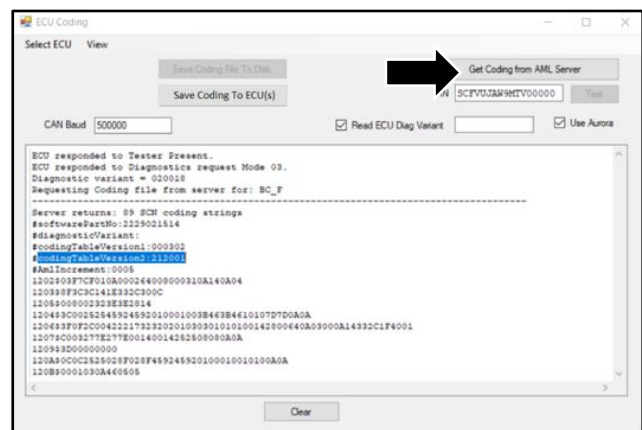

Figure 3
- Select “Get coding from AML Server” (refer to Figure 3).